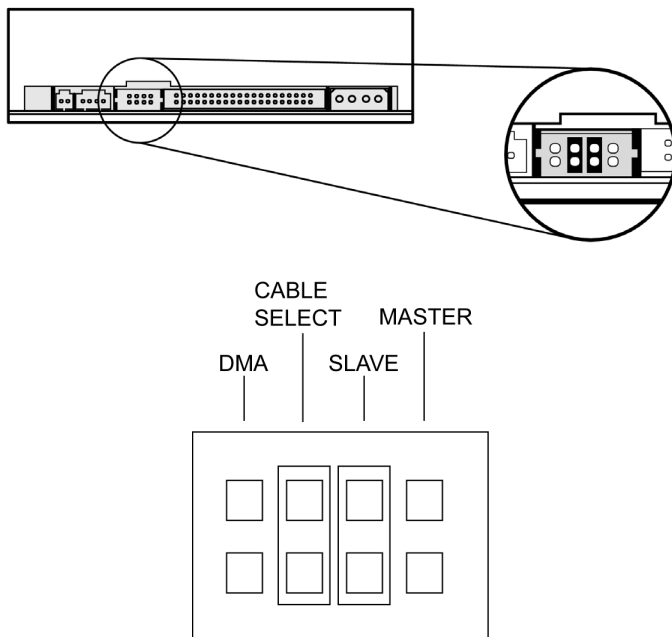

Figure 41: Place jumpers across both the SLAVE and CABLE SELECT pins to perform the self-test diagnostics on the PX-712A.
5. Install an extra jumper so that both the CABLE SELECT and SLAVE positions are jumpered, as shown in Figure 41.